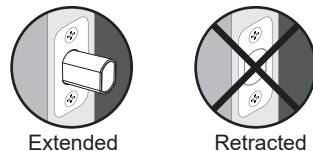

Fig. 7
⚠ **It's highly recommended to leave the door open during installation. And always keep the bolt extended throughout the installation (Fig. 7).**
**⚠ Always keep the bolt extended and the thumb turn vertical throughout the installation (Figs. 7 & 8).**